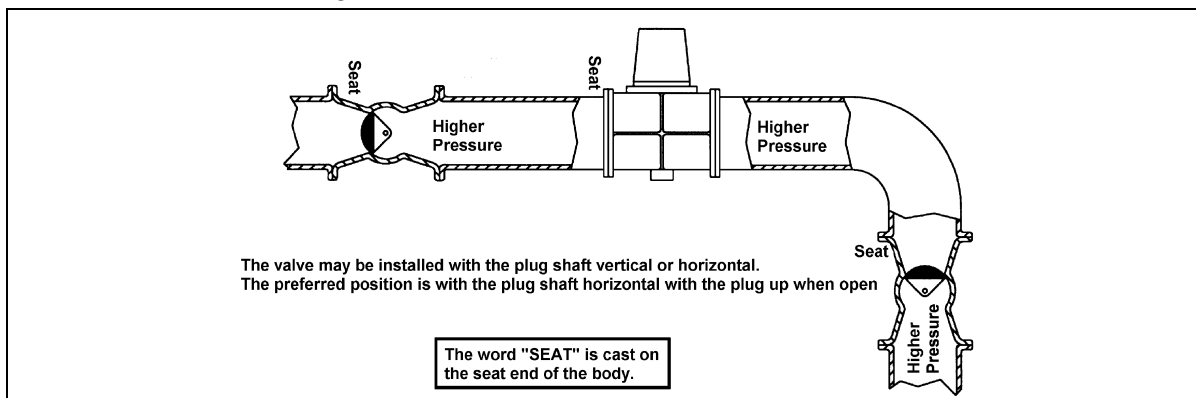

Figure 1—Liquids and Gases
2. Install the valve as shown in Figure 1.